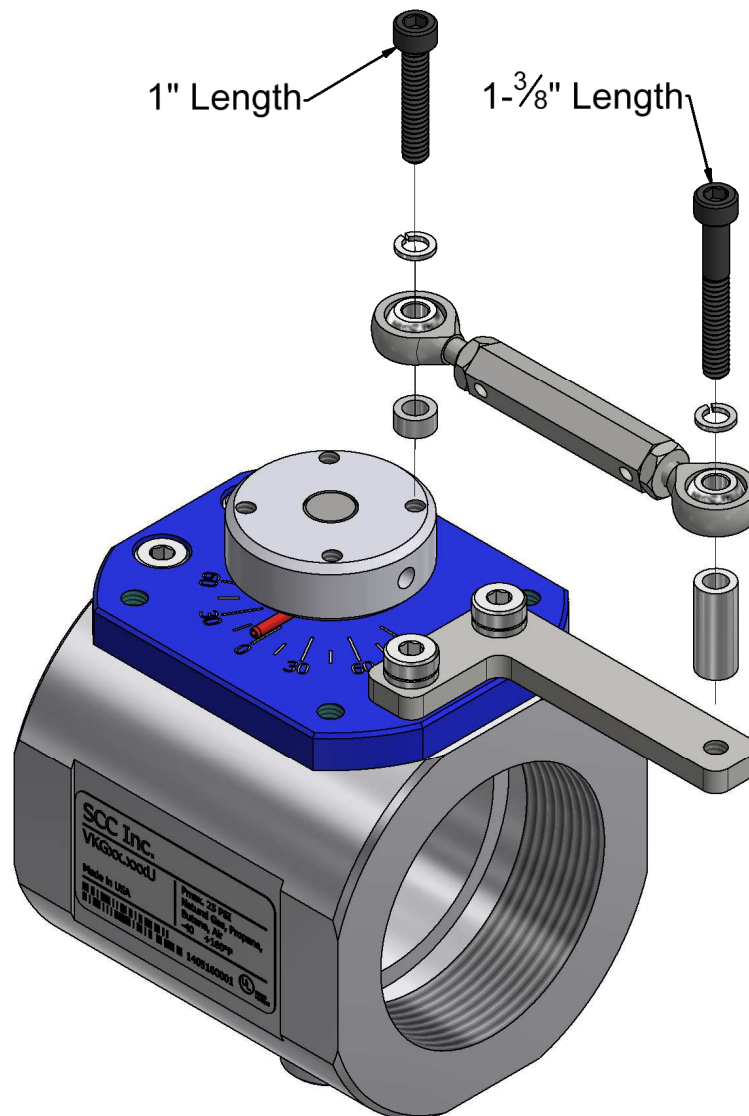

Figure 5: Turnbuckle Assembly Installation
4. Install the turnbuckle assembly onto the valve using a $5/32$ " hex key, the #10-24 x 1" socket cap screw, the #10-24 x $1-3/8$ " socket cap screw, the (2) #10 spacers, and the (2) #10 split lock washers as shown below in Figure 5. The 1" length socket cap screw threads into the crank hub and uses the shorter #10 spacer. The $1-3/8$ " length socket cap screw threads into the mounting bracket and uses the longer #10 spacer. The valve shaft may need to be turned slightly so that the hole in the crank hub lines up with the hole in one of the rod ends on the turnbuckle assembly.